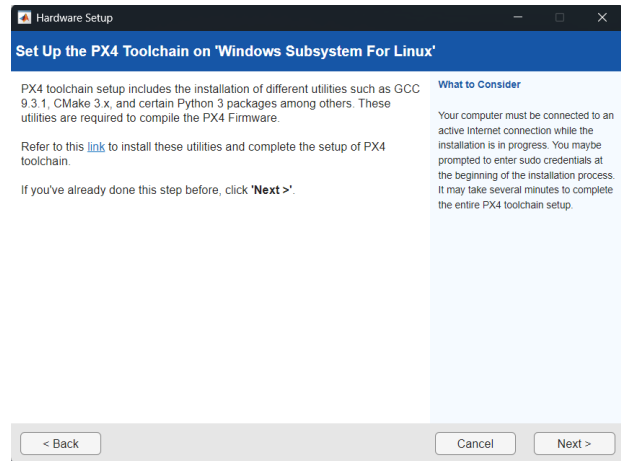

Figure B.6: Screenshot of the PX4 toolchain set up instructions window.
8. The screen shown in Figure B.6 provides initialization instructions for the cloned PX4 source code. These steps are documented as a part of the cloning and setup instructions presented in Section B.2.2, so no further action is required. Proceed to the next screen